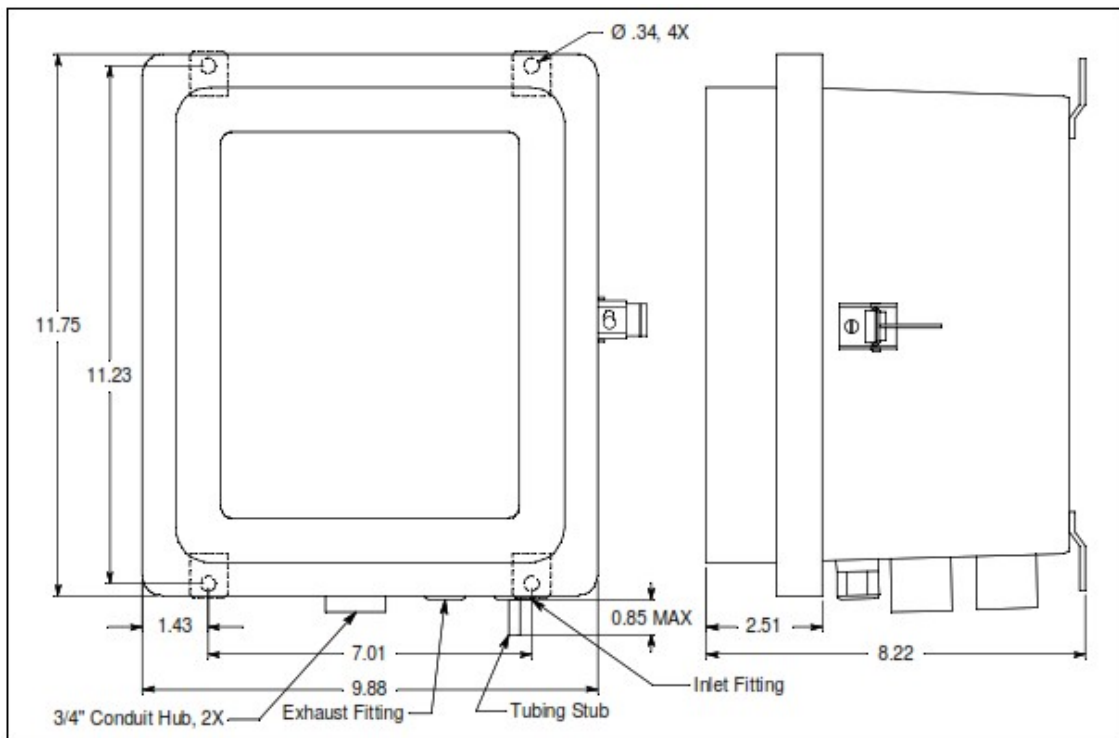

Figure 3: Outline & Mounting Dimensions
- Use four 1/4" screws through the mounting feet to mount the GD-70D4X-XX to a vertical surface. See Figure 3 for the mounting dimensions.